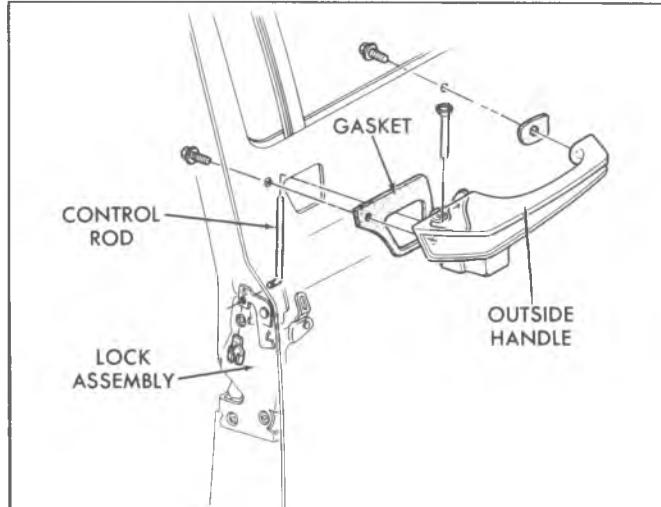

Fig. 43—Outside Handle
Outside Handle—Fig. 43**Replacement**
2. Disengage outside handle control rod from lock assembly by removing clip, as shown in figure 43.